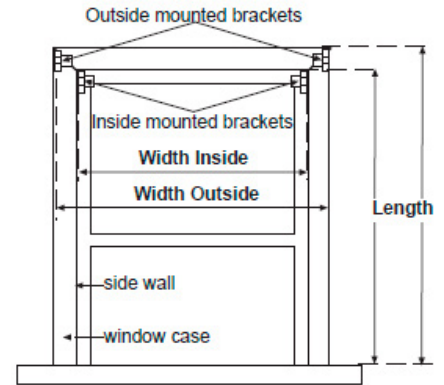

Figure 2. Measurements on a window
Step 1. See **Figure 2.**
Step 1. Mount the brackets to the window casing according to the marked locations in **Figure 2** (see above). **Figure 3** shows the proper bracket placement options. The left and right Skyline brackets are identical so the motor can be mounted on the left or the right side.